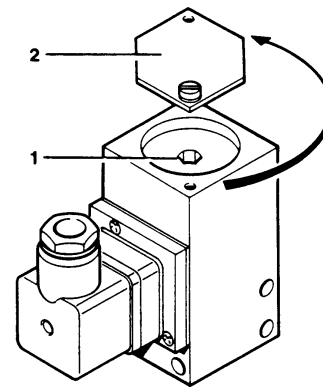

Fig. 47 Final pressure switch
In case of readjustment becoming necessary, open cover (2, Fig. 47). Adjust screw (1) to the required pressure using a 6 mm allen key.